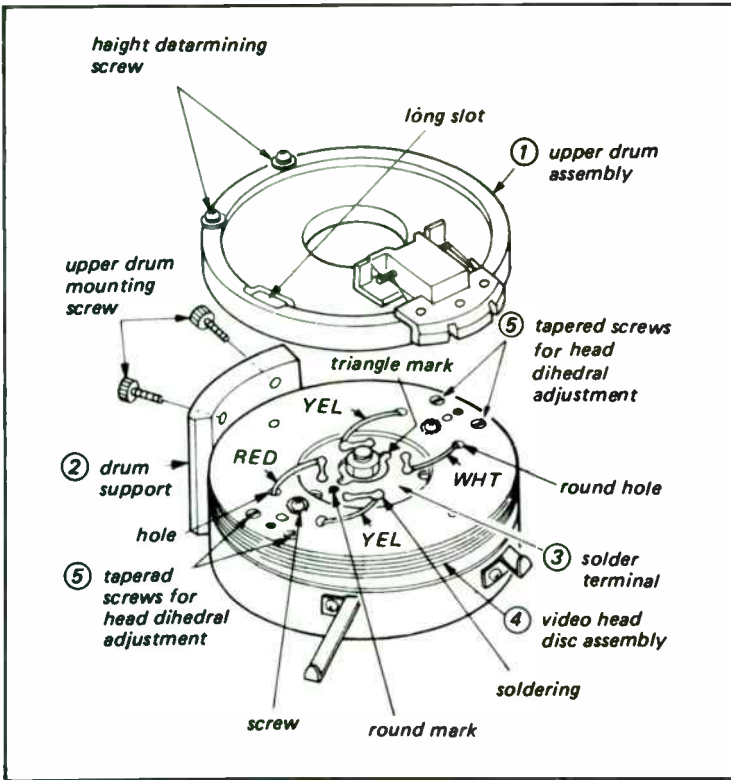

Fig. 5-23. Video head disc assembly.
1—Remove the upper drum mounting screws shown in Fig. 5-23 with an Allen wrench and remove the upper drum assembly (1) from the drum support (2).
■ Make a final test of eccentricity using the gauge, when the screws are fully tightened. Solder the leads of the video head to solder terminal (3) as shown in Fig. 5-23. Note: Bend the video head leads flat on the top surface of the video head disc assembly (4) so that the slack of the leads does not touch the upper drum assembly (1). Set the upper drum assembly (1) to the drum support. Tighten the mounting screws with an Allen wrench while holding the height determining screws with the fingers. Refer to Fig. 5-23.
Note: This adjustment may not be required (Fig. 5-23).